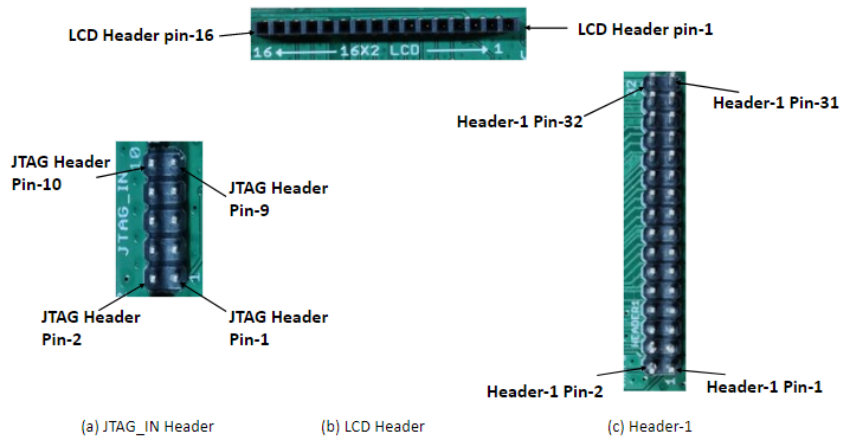

Figure 9: Pin mapping of headers
4. Using the header pins: Figure 9 shows the numbering convention for the general purpose I/O headers HEADER1, JTAG_IN and LCD Connector. Tables 6 shows the pin mapping for these using the same numbering convention and pattern as in Figure 9.